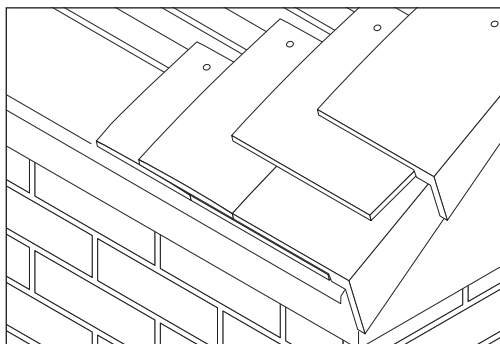

Fig 5 Successive courses
- 8 Mechanically fix these or install with Marley Eternit Dry Ridge System (Fig 5).